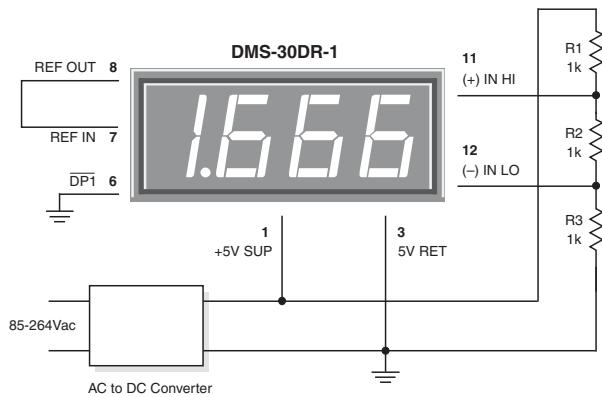

Figure 3. Differential Input Configuration
2. Differential Input Configurations: Differential measurements can be made with all DMS-30DR meters. Figure 3, though not a practical real-world application, uses a voltage divider to demonstrate the concept of a differential input signal. Be careful not to exceed the $\pm 2V$ common mode voltage limitation for 5V-powered meters.